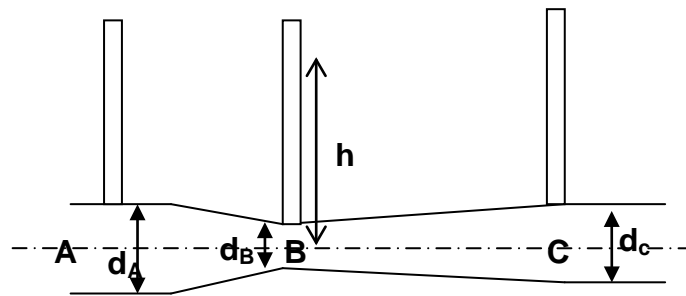

Figure 7 / Rajah 7
- [b] In Figure 7 friction loss between A and B is negligible while between B and C the loss is $0.15 \left(\frac{0.15V_B^2}{2g} \right)$. Given $h = 750$ mm, diameter A and C is 250 mm, diameter B = 100 mm. Find the pressure heads at A and C if the liquid is flowing through the circular pipe from A to C at the rate of 280 L/s.